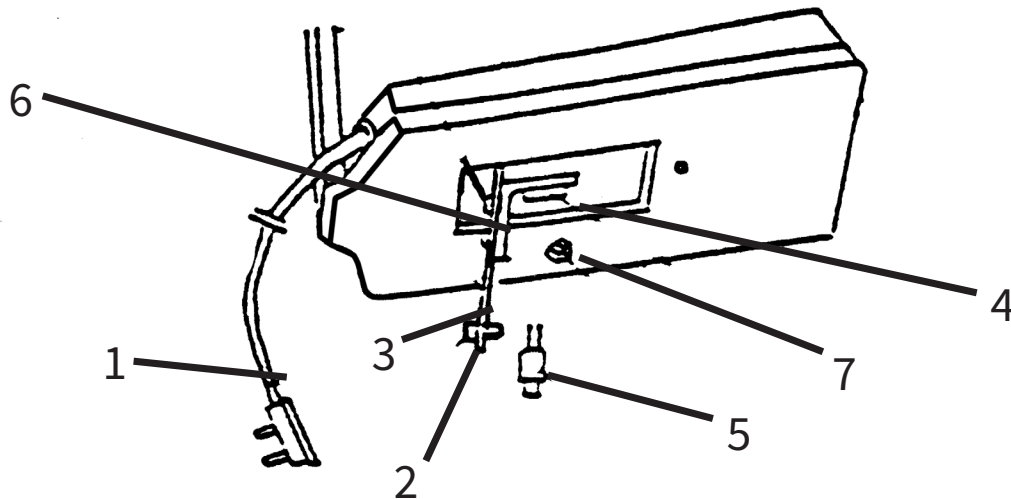

FIG. 14
- (5) Clean the new lamp with absoluted alcohol.
- (6) Refix lamp base board on bottom with screw [2].
- (7) Mount the lamp well. Plug in power source. Turn 4x objective lens into path. Adjust condenser upwards and downwards and make light enter view of field. If light spot is offset the center of view, loose screw [6] slightly and move lamp base [4]. Make lamp spot into center, then tighten up the screw [6] to use immediately. (shown in Fig. 14)